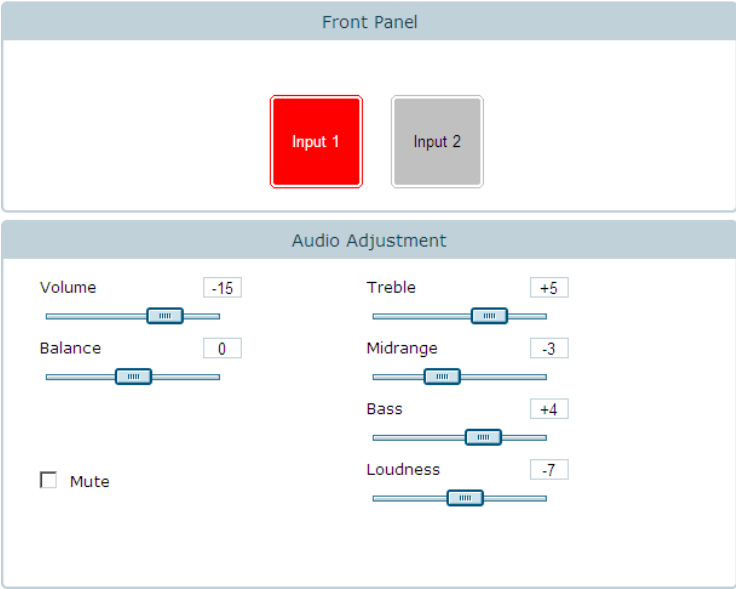

Figure 12: Control Settings
5. To choose the desired input, click on *Input 1* or *Input 2* (see Figure 12). Each input has its own set of audio adjustments.